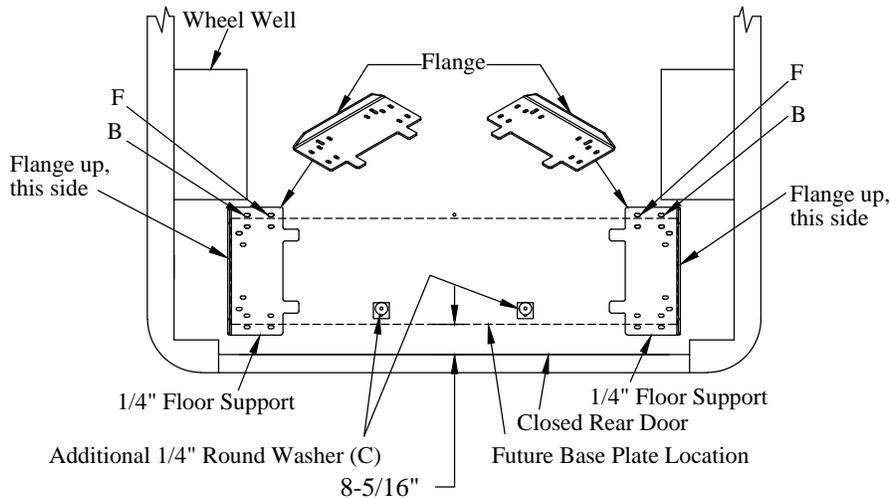

Figure 9: Floor support locations (top view).
1. **Position** the 1/4" floor supports in the van. Use the "F" and "B" holes as shown to align the supports (Figure 9).
4. **Position** an additional round 1/4" washer at each "C" location (Figure 9).